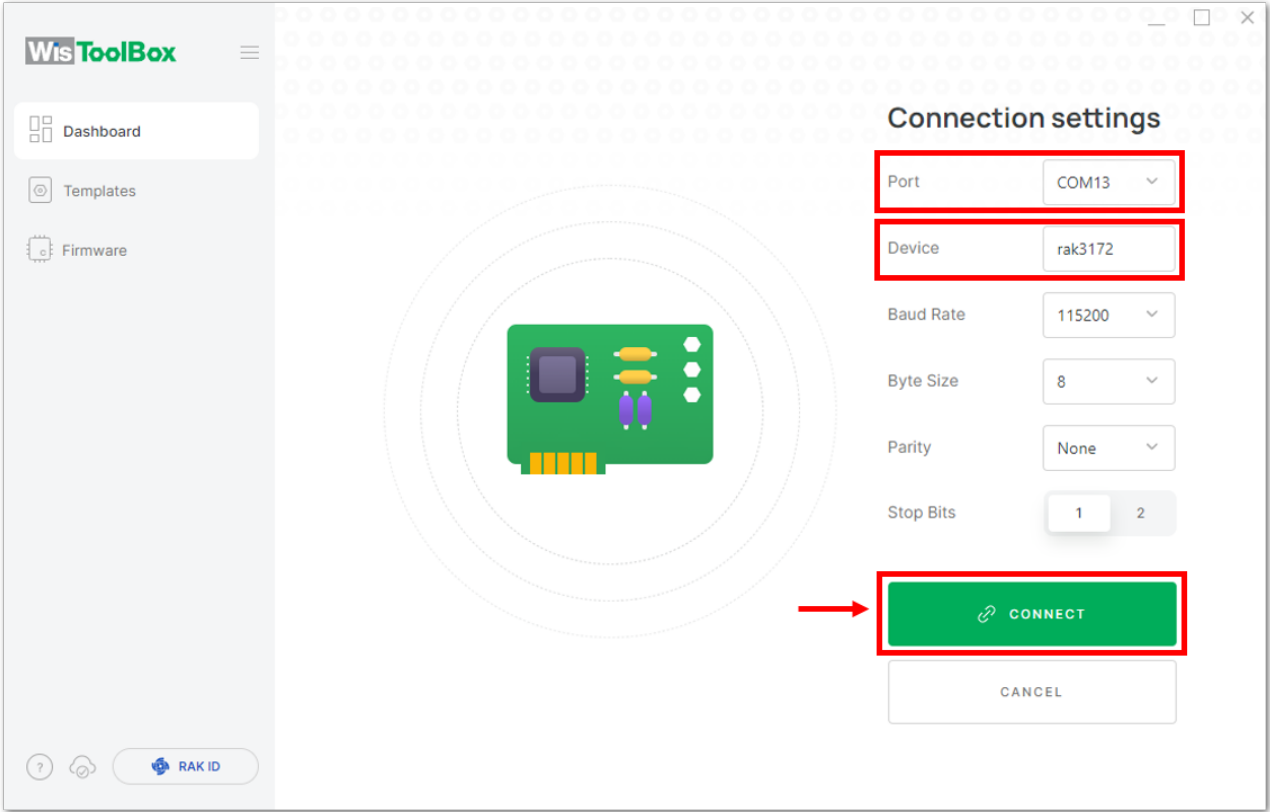

Figure 136: Setting up your device
3. Then select your target port where your **RAK3172** is connected. Once recognized, click **CONNECT** as shown in Figure 136.